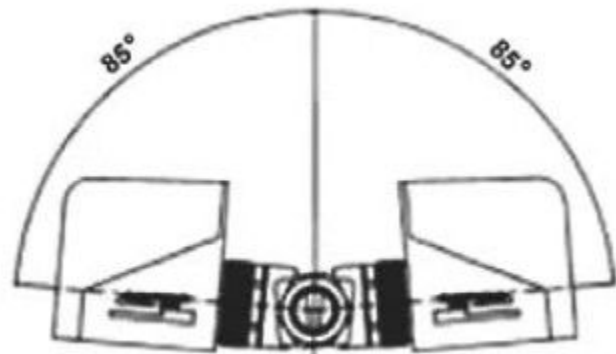

Fig 2 ↵
2. The valves can be mounted in horizontal or vertical piping, When installed in horizontal piping, the actuator must be above the valve body, and it can be titled left or right but it must NOT be below 85 degrees from vertical. Please refer to Fig 2.